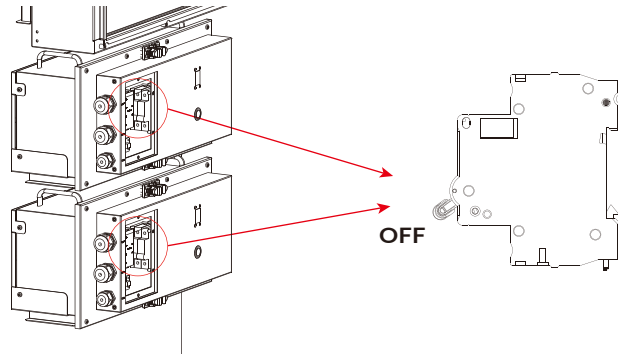

Figure 2.34 Confirm Circuit Breaker Status
Step 17 Confirm that the status of circuit breaker is OFF. Please turn it off if it is ON. The status of the Figure 2.34 above is turned off viewed from the front.